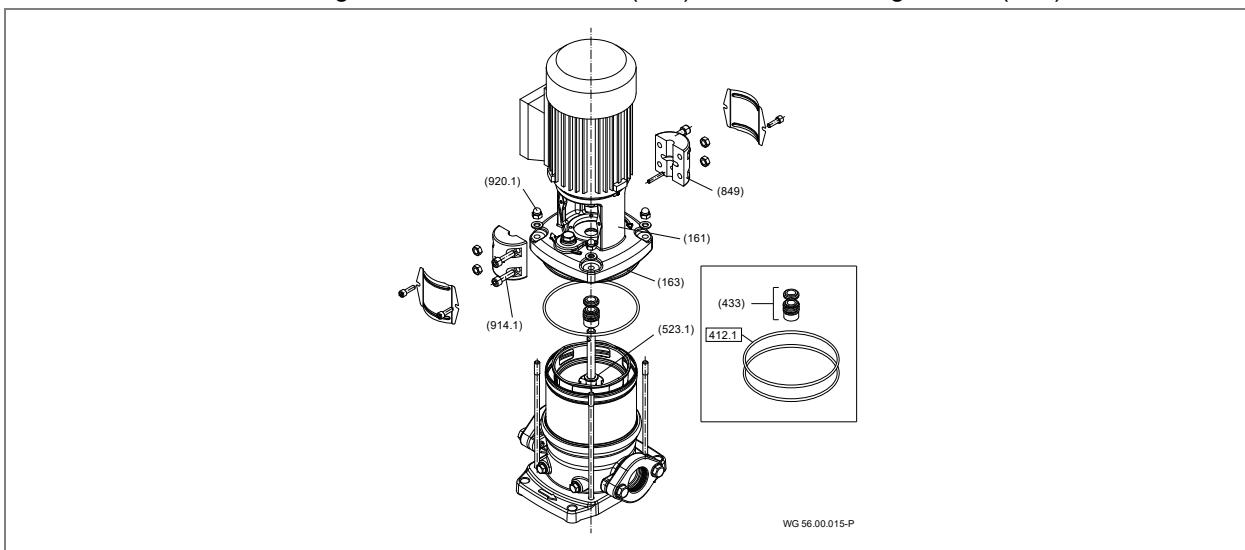

Fig. 15
See "Fig. 15" on page 30
- Observe figure 15.
- 2. Assemble the rotating unit of the mechanical seal (433) on the shaft (211).
- 3. Assemble the counter ring of the mechanical seal (433) in the pressure cover (163).
- 5. Assemble the discharge cover (163) on the pump's outer casing.
- 6. Put the drive lantern (161) on.